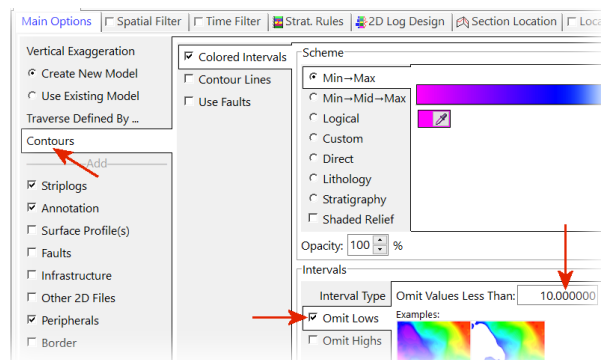

Figure 79
- Click on the *Contour* tab and enable the *Colored Intervals* option (Figure 79). Enable the *Omits Lows* option and set the *Omit Values Less Than* threshold to 10.0.